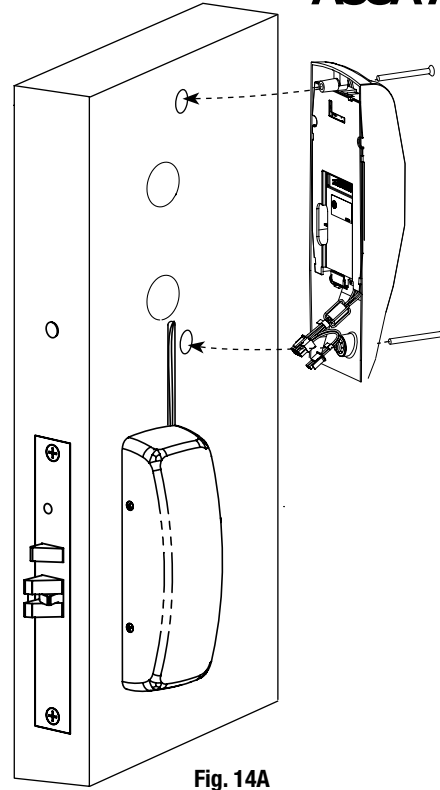

Fig. 14A
4. Straighten escutcheons and tighten securely (Fig. 14A).